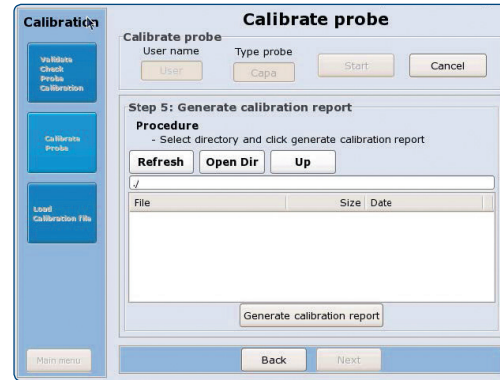

Figure 5: Generation of a Calibration Report.
16. Choose the directory, where the Calibration Report should be stored and press Generate Calibration Report (Figure 5). The valid calibration is automatically saved in the memory of the Pre-amplifier.